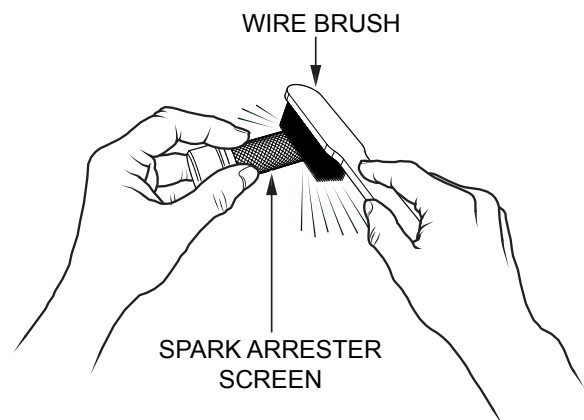

Figure 54. Cleaning the Spark Arrester
3. Clean the spark arrester screen with a stiff bristle brush (Figure 54). If carbon buildup is present, soak or spray the spark arrester screen with carburetor cleaner and blow dry from the inside out with low-pressure compressed air.